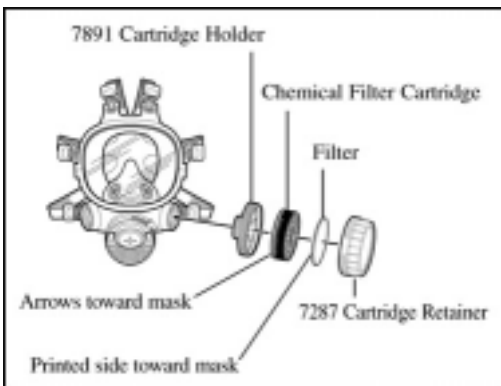

Fig. 7
1. 3M™ 7000 Series Chemical Cartridge arrows must point towards the facepiece. If the 3M™ N95 Filter 7N11 is needed, place the filter on top of the cartridge with the printed side towards the cartridge. If the 3M™ P100 Filter 7090 is needed, place the filter 7090 on top of the cartridge with the black gasket towards the cartridge. Secure assembly with 3M™ Cartridge Retainer 7287. (Fig. 7)